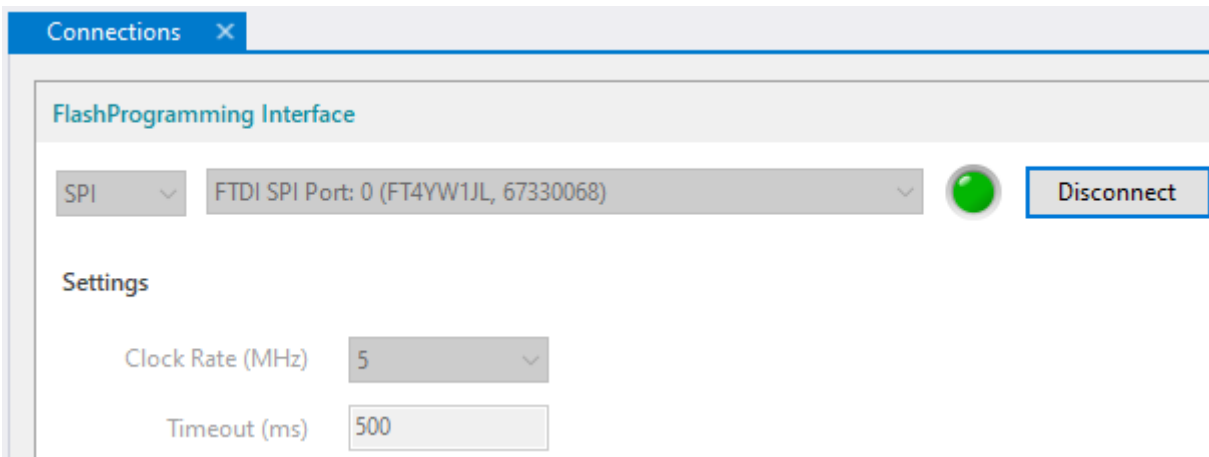

Figure 4-9. DLP Composer - Connections
6. Navigate to the Connections tab. Set to *SPI* and *FTDI SPI Port*, then click the *Connect* button. The virtual green LED should illuminate to indicate a successful connection as shown in Figure 4-9.